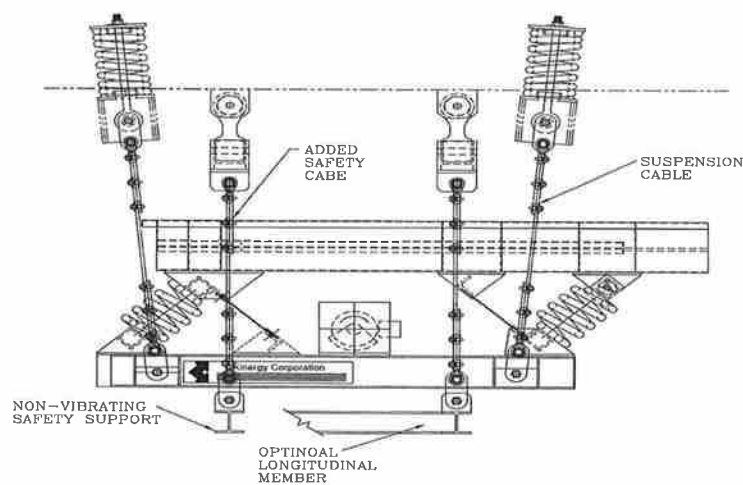

Figure 16: Screens suspended on cables need non-vibrating safety cables or structural stops positioned under the counterbalance.
4. **If suspension cables are appropriately used** for overhead support, make sure an adequate secondary support, by means of structural “stops” on the Screener’s under side or some type of non-vibrating “safety slings” are also used. (See Figure 16).